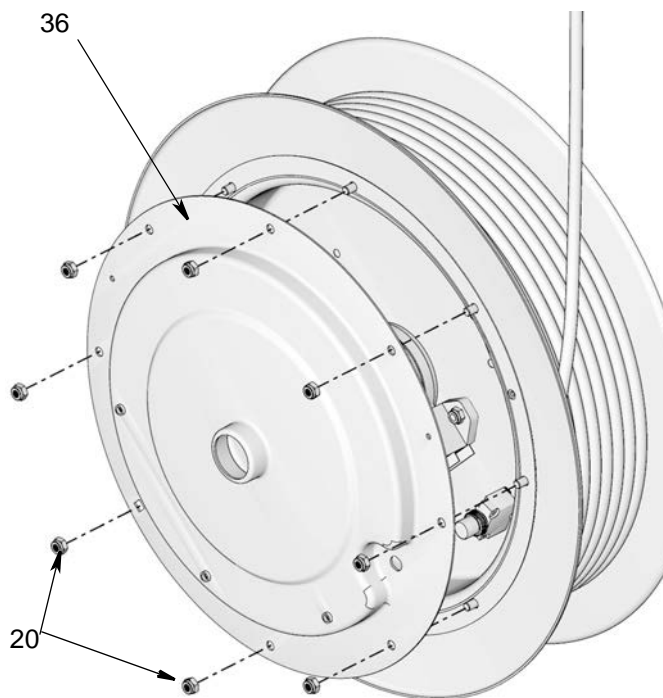

FIG. 6: Size 10 shown
9. **For Size 5 models:** Loosen six 10 mm hex nuts (20) and remove cover (36). (FIG. 6).
For Size 10 models: Loosen eight 10 mm hex nuts (20) and remove cover (36). (FIG. 6).